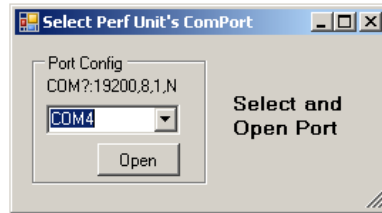

Figure 14
2. Review the About, License, and Help tabs on the ControlFire® Perforating Switch System page and check the **I have read and agree** box and then click **Continue**. The Select Perf Unit ComPort screen will appear after selecting the **Continue** button as shown in Figure 14.